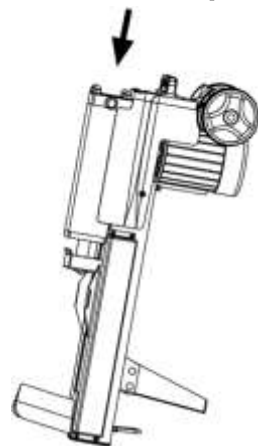

Fig. 4
4. Refill the hydraulic oil reservoir by raising the rear end until the tool is vertical. Place supports around the tool if necessary. See Specifications for the proper amount of hydraulic oil. A funnel may be needed depending on the angle (Fig. 4).
6. Clean the dipstick (R) and insert it back into the oil tank. The oil level should be between the dipstick's two grooves. Top the level up or drain depending on the result.